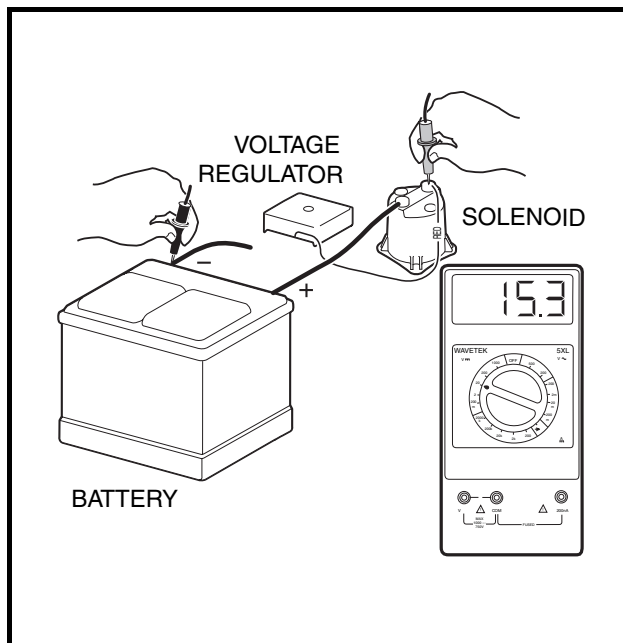

Figure 11-20 Test Voltage Regulator
5. Turn the key switch to the OFF position, killing the engine. Using a multimeter set to 20 volts DC, place the red (+) probe on the large post of the solenoid with the red wire from the voltage regulator attached. Place the black (-) probe on the negative (-) battery post (**Figure 11-20, Page 11-21**). With the Forward/Reverse handle in the NEUTRAL position and the wheels chocked, turn the key switch to the START position to start the engine. Press the accelerator to run the engine at full governed speed. If the reading is between 14.7 and 15.3 volts, the regulator is good. If the reading is lower than 14.7 volts but rising steadily, check battery condition. **See Hydrometer Test on page 11-9.** If the reading is lower than 14.7 volts and not rising, and the starter/generator is good; or if the reading is over 15.3 volts and continues to rise, replace voltage regulator. **See Voltage Regulator Removal, Section 13, Page 13-11.**